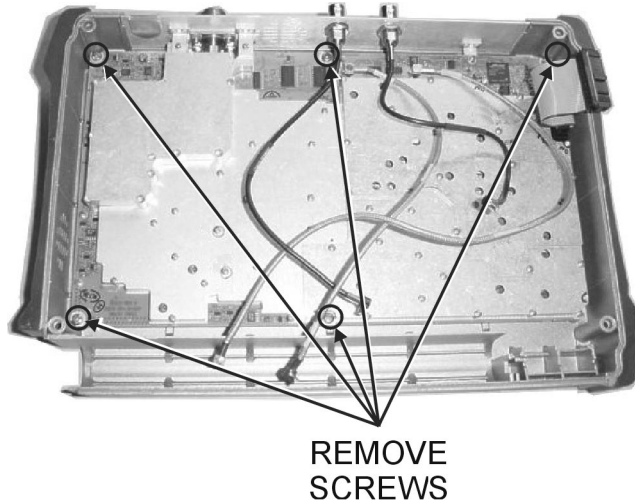

Figure 18. Spectrum Analyzer Module Removal
2. Use a Phillips screwdriver to remove the six screws securing the Spectrum Analyzer Module Assembly to the back half of the instrument case (Figure 18).